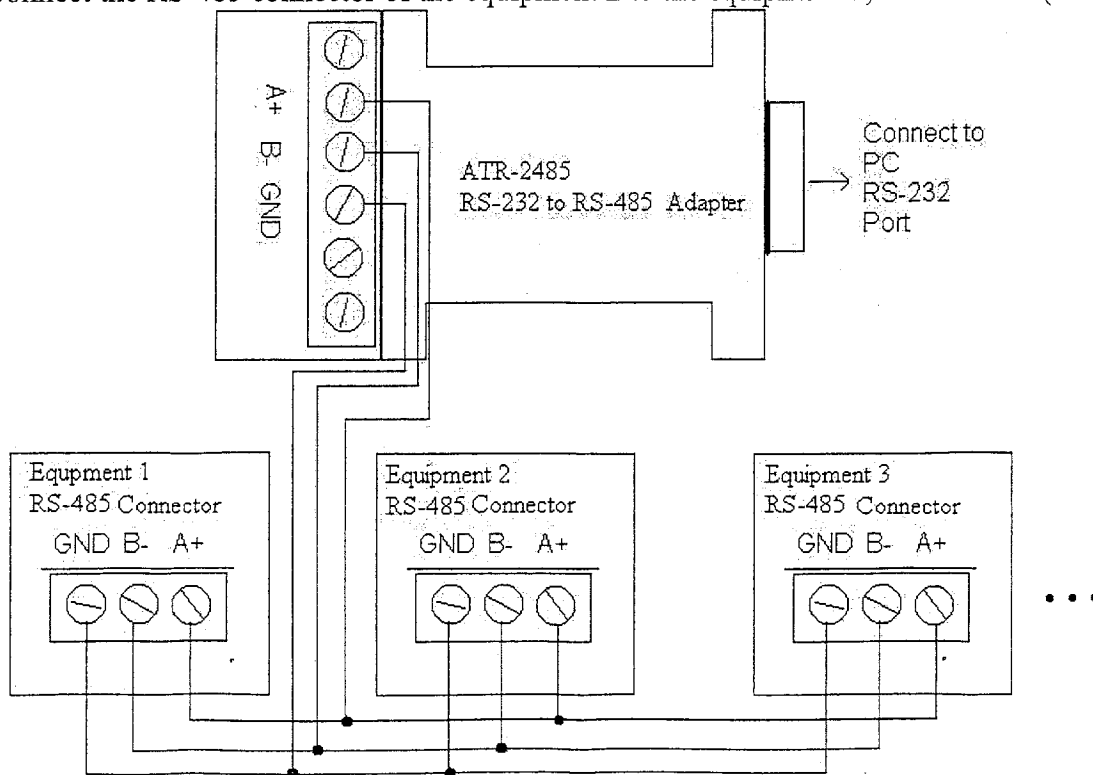

Fig.3
- (3) If you want to connect two or more equipment, connect the RS-485 connector of the equipment 1 to the equipment 2.
- (4) Connect the RS-485 connector of the equipment 2 to the equipment 3, and so on.....(see Fig.3)